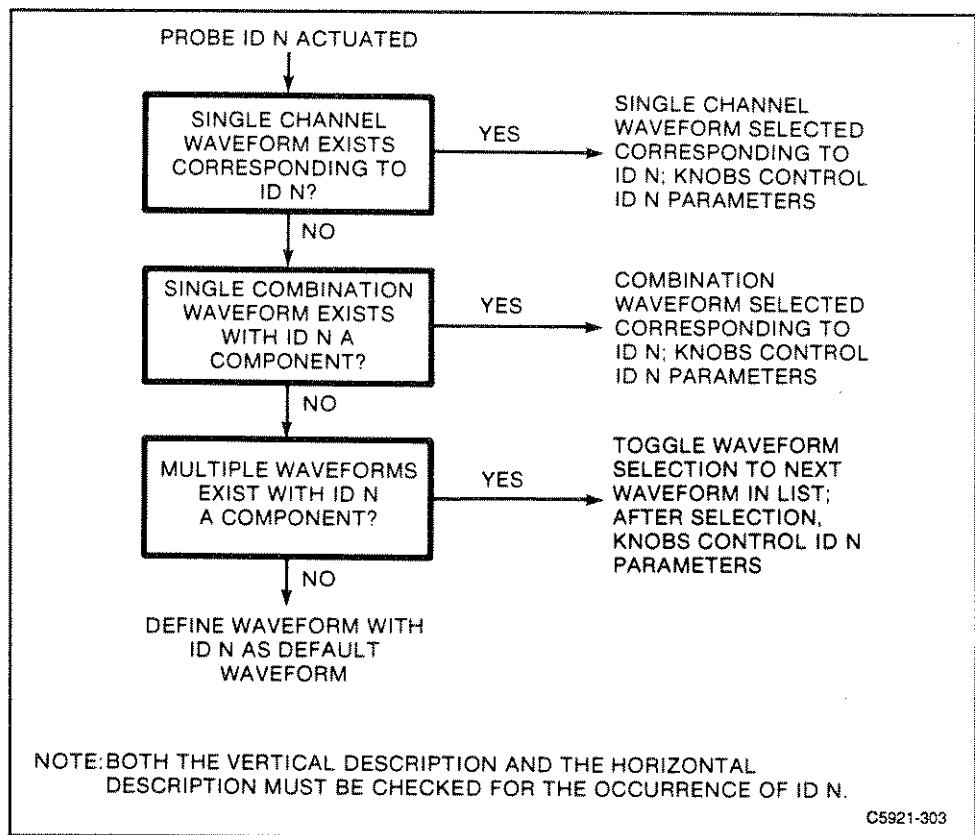

Figure 3-4. Sequence of decisions used to select a new waveform in response to probe ID button.
2. If the **Probe ID Function** (in the **Probes** pop-up menu of the Utility major menu) is set to **Waveform Select/New Wfm**, a waveform will be selected. Figure 3-4 shows the sequence of decisions used to select a new waveform.
3. If the Probe ID Function is set to **Wfm Select/New Wfm & AutoSet**, then the decisions shown in Figure 3-4 will be made, and the resulting selected waveform is autoselected.